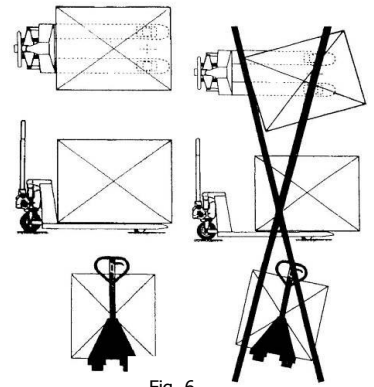

Fig. 6
- 5.2 The cargo loading type is shown as fig 6.